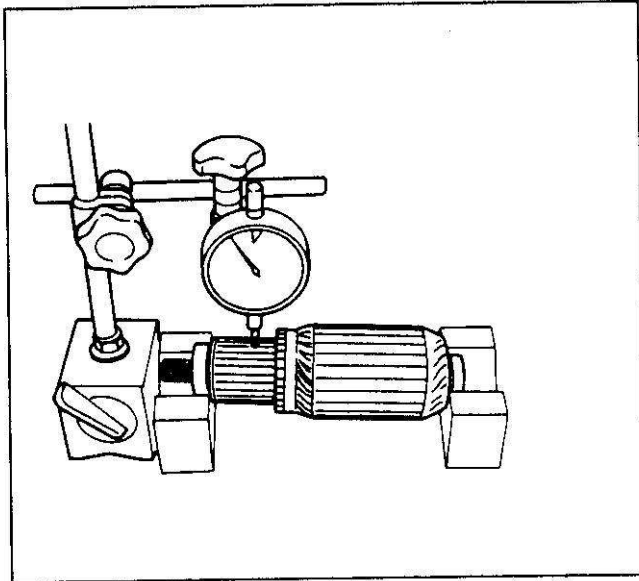

Figure 27. Checking Armature Runout
- Commutator to runout and replace the armature if runout is less than 0.2 mm (0.0079 in) (figure 27).